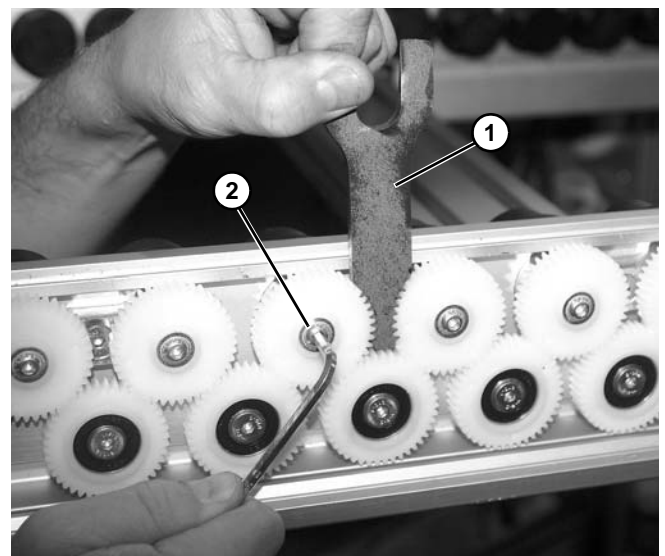

Figure 41
3. Install sprocket removal tool, part number 400289 (**Figure 41, item 1**) between gears.
4. Remove screw (**Figure 41, item 2**) holding gear onto roller shaft.